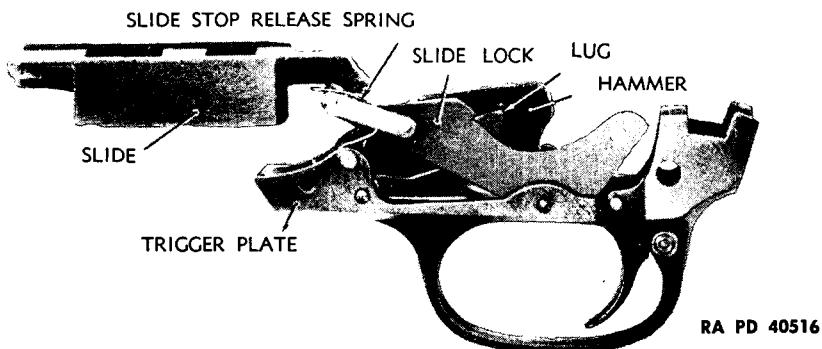

Figure 43—Slide and Trigger Plate Groups—Slide Riding Over Lock—Hammer Locked—Stevens Shotgun M620A
(e) *Slide lock.* The slide lock (figs. 43 and 44) of the M620A, M520, and M620 Guns are practically the same. In the M620A and M620 Guns, the slide lock spring is of the torsion type and mounted on the trigger pin and bears down upon the rear end of the slide lock. In the M520 Gun, this spring is of the safetypin type and seats in a hole in the top of the left wall of the trigger plate, and bears upward on the rear pin of the slide lock link positioned in the forward end of the slide lock.
c. When the slide lock (figs. 43 and 44) is disengaged from the slide either by manual pressure or by the descending hammer (par. 20 e (9)), and the operating handle retracted, the slide moves to the rear, riding over the forward end of the lock. As the slide returns on the forward